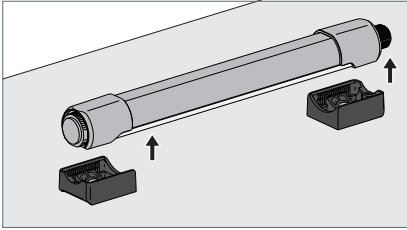

Fig. 10: Removing the luminaire.
- ▶ Turn the protective cover of the luminaire to the mounting surface and remove the luminaire from the holders, see Fig. 10.